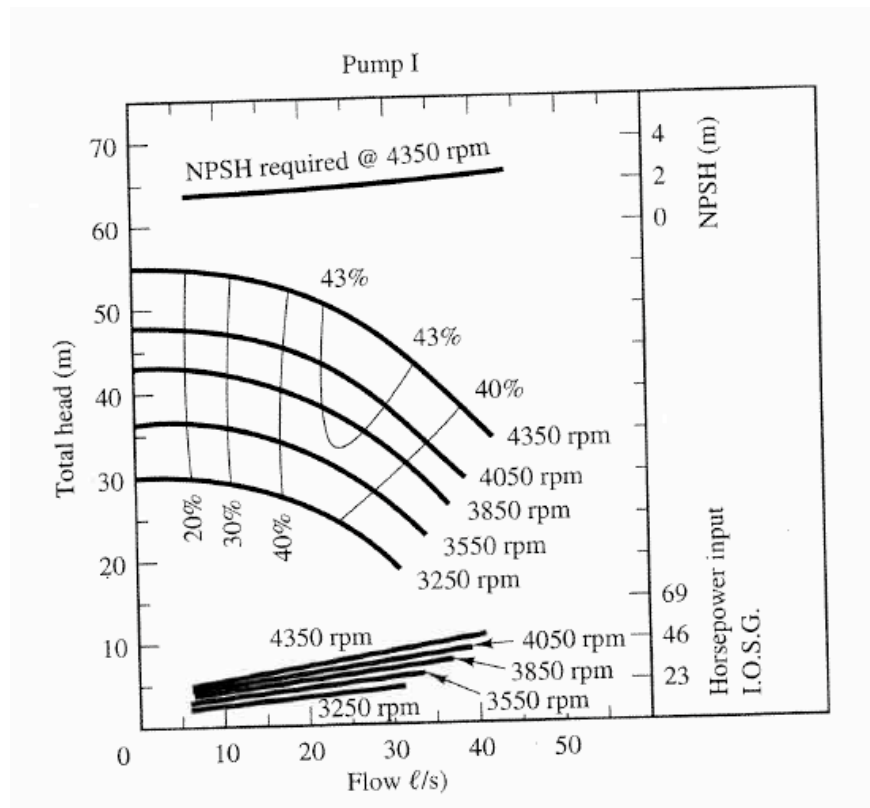

Figure 4: Pump curves for 5 different impeller speeds.
- (XI) Using the flow rate just computed, and the Modified Bernoulli (Energy) Equation for the portion of the system from the water supply reservoir (Lake Gulameta) to the large diameter storage tank, and neglecting minor loss terms (but not the pipeline loss), determine the required pump head (added head).
- (XIII) Figure 4 is a set of pump curves for a pump at different impeller speeds. Circle the portion of the graphic that contains information about the Net Positive Suction Head (NPSH) required by the pump.
- (XIV) Assuming the schoolyard overflow condition is the most flow the pump will have to deliver, select a pump speed from one of the five on Figure 4 below. Indicate which curve you selected, show the operating point. Indicate if you need two pumps in series to supply the necessary head.
- (XV) Estimate the NPSH required for the pump at your operating point.